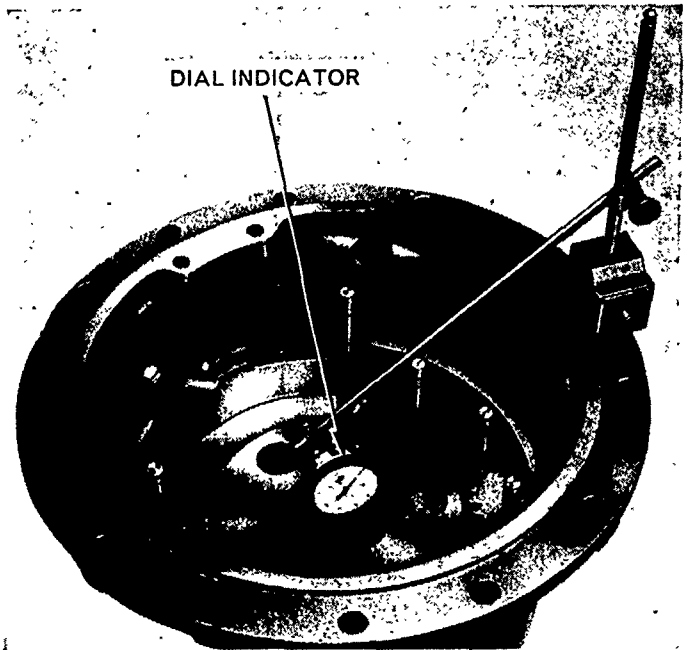

Figure 48
- b. Set up a dial indicator, as shown in Figure 48. It will be necessary to use an extended plunger on the dial indicator to enable a reading to be taken from the top of the axle shaft bolt/bolts.